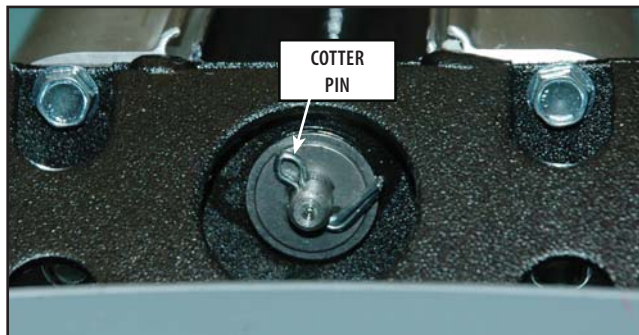

FIGURE 6.16
Cotter Pins are not supplied with the replacement Acme Rod. Carefully remove the Cotter Pin and retain for installation of the Ball Screw. **Refer to Figure 6.16.**
11. Using Needle Nose pliers carefully remove the Cotter Pin securing the Ball Screw to the front end of the unit. **Refer to Figure 6.16.**